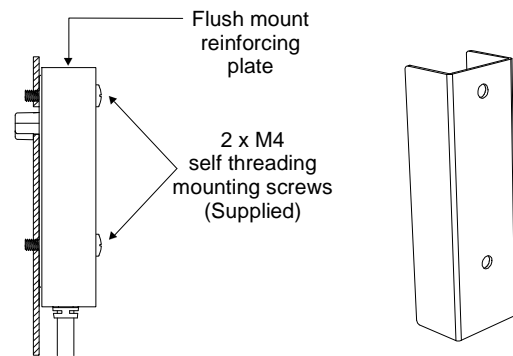

Fig6. RA30 shown mounted on the outside of a switchgear panel. Detector oriented to 'look' through a hole into the switchgear
Direct sunlight incident on the rear of the RA30 single sensor model will not cause it to pick up. This attribute provides a significant safety margin to avoid nuisance tripping when the option of mounting the sensor externally on switchgear as depicted in figure 6 is employed.
When mounting the RA30 on the outside of a switchgear cubicle as depicted in figure 6, the hole required in the panel may degrade the short circuit rating. If this is considered to be an issue then a reinforcing plate may be fitted over the RA30 as depicted below. The Reinforcing plate comes as standard with the RA30.
**Fig9. RA30 shown mounted on the inside of a switchgear panel.** This configuration combines the functions described in Figures 6 & 7 with the application of a single dual detector arc fault sensor